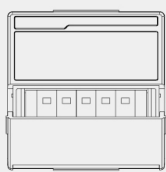

图2 Figure 2
b)按要求设置好延时间和时段(如图2);
b) Set the delay time and time period as required (as shown in Figure 2);
- 6、CDH48□-S功能简述:延时设置见.上图2, 设置T1. T2的时基和预置数, 然后接通电源, 右边两位数码管显示T2的延时数据, 同时T2指示灯亮, 当延时到达T2设定值后, 时间继电器动作, 同时左边两位数码管显示T1的延时数据, T1指示灯亮, 当延时到达T1设定值后, 时间继电器释放, T2又开始延时, 如此实现循环延时控制。
- 6.Cdh48 □ - s Function Description: see for delay setting In Figure 2 above, set T1 The time base and preset number of T2, and then turn on the power supply. The two digit nixie tubes on the right display the delay data of T2, and the T2 indicator light is on. When the delay reaches the T2 set value, the time relay acts. At the same time, the two digit nixie tubes on the left display the delay data of T1, and the T1 indicator light is on. When the delay reaches the T1 set value, the time relay releases and T2 starts to delay, so as to realize the cyclic delay control.